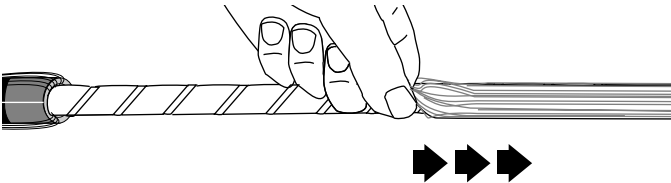

Figure 25
**7.3** Starting at the cut point, slide the yarn off the end of the cable (Figure 25). The yarn will bunch up, but will slide to the end of the cable.